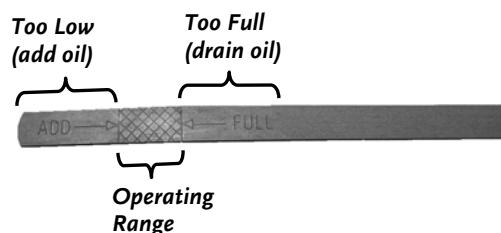

Figure 12
4. If the oil level is low continue adding a few ounces of oil at a time, rechecking the Dipstick until the oil reaches the fill mark (**Figure 12**). Be careful not to overfill.